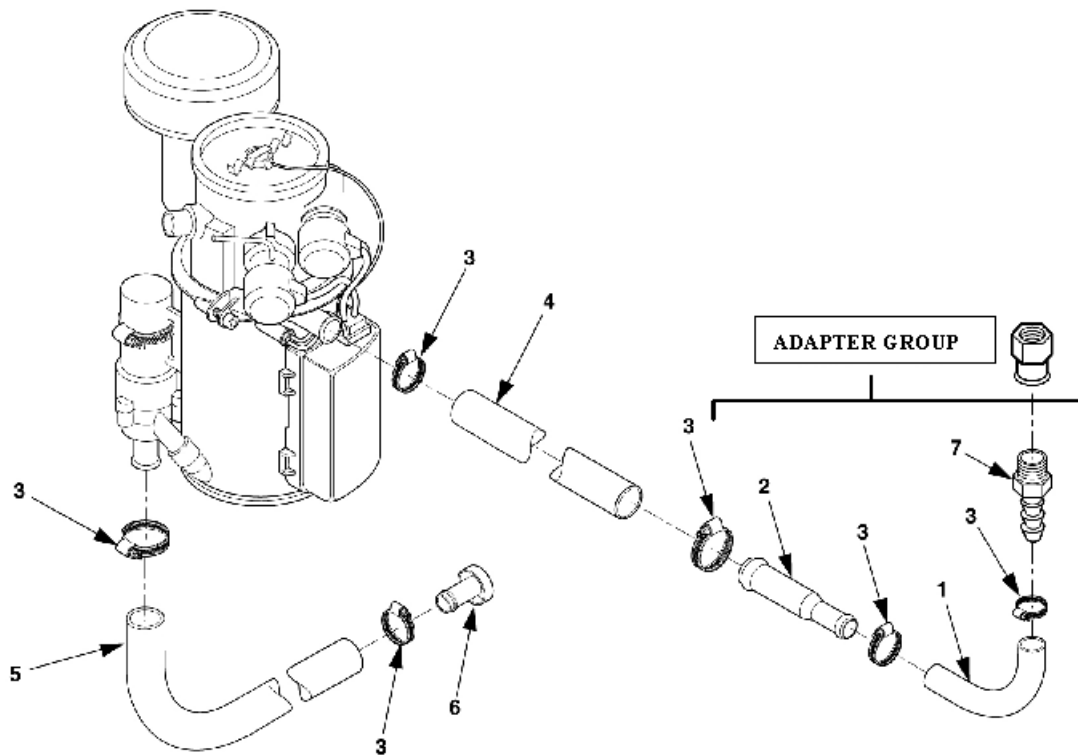

Figure 5-7. Coolant Hoses.
31. Install 90° preformed coolant hose (5), Figure 5-7, from expansion plug (6) to heater coolant intake using clamps, (3). Make sure to route the hose around and behind the engine. Secure with tie straps.
32. Remove cap and clamp from engine water pump. Install hose (4) to beaded hose fitting (p/o) water pump with clamp (3).
33. Install coolant hose (1) to water pump adapter (7) using clamp (3). Attach hose (1) to reducer (2), attach hose (4) to reducer (2). Secure with clamps (3). (Cut hose (4) for fit). Secure hose (4) to heater with clamps (3).